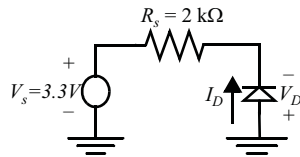

Figure 0.2 Series diode circuit
2. [M, None, 3.2.3] For the circuit in Figure 0.2, $V_s = 3.3\text{ V}$. Assume $A_D = 12\ \mu\text{m}^2$, $\phi_0 = 0.65\text{ V}$, and $m = 0.5$. $N_A = 2.5\text{ E}16$ and $N_D = 5\text{ E}15$.